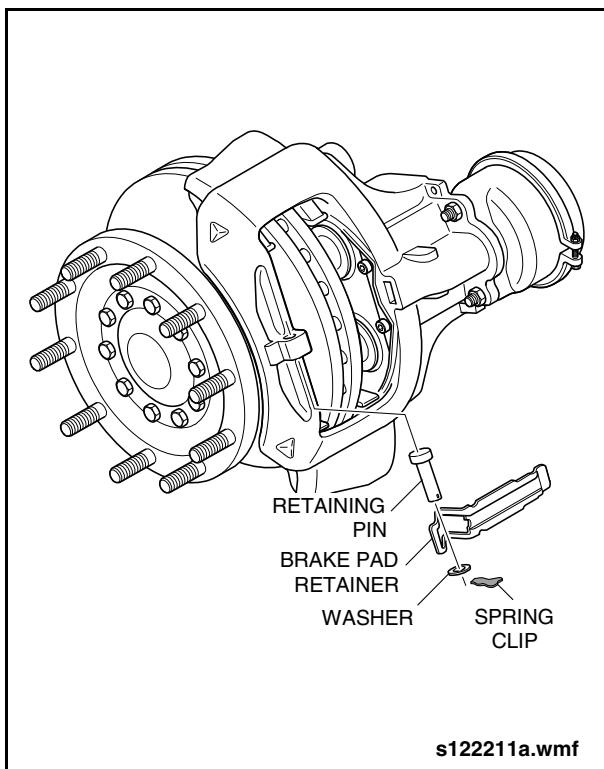

Fig. 2-122: Brake Pad Retainer Installation
- a. Insert the inboard end of the pad retainer into the groove and apply sufficient downward pressure to allow insertion of the retaining pin. See “Fig. 2-122: Brake Pad Retainer Installation” on page 109.